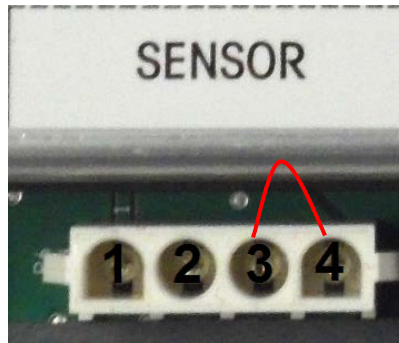

Figure 6
**Step 4: Checking the first sensor encoder signal. There are 2 signal wires per sensor encoder connection. See note.** Set multi-meter to AC Volts and while the room (in teach mode) is moving, back probe between pin 4 (ground) and pin 3 (signal) at the controller sensor connection. This should be a steady AC signal. See figure 6.